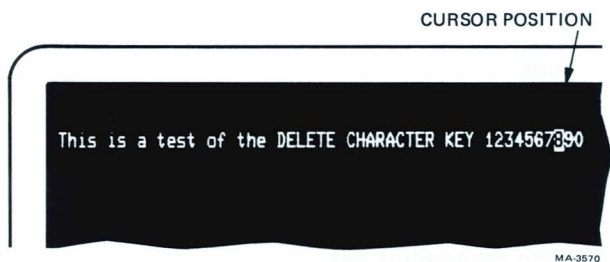

Figure 1-21 Positioning the Cursor to Delete a Character
1. Position the cursor over the character to be deleted (Figure 1-21).